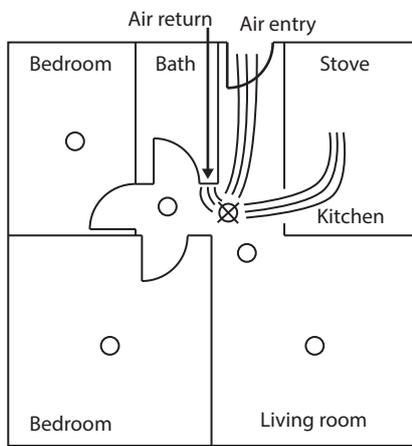

Figure 8
- In air streams passing by kitchens. The way a smoke alarm senses combustion particles in normal air-flow paths is shown in Figure 8, indicating the correct and incorrect smoke alarm locations concerning this problem.